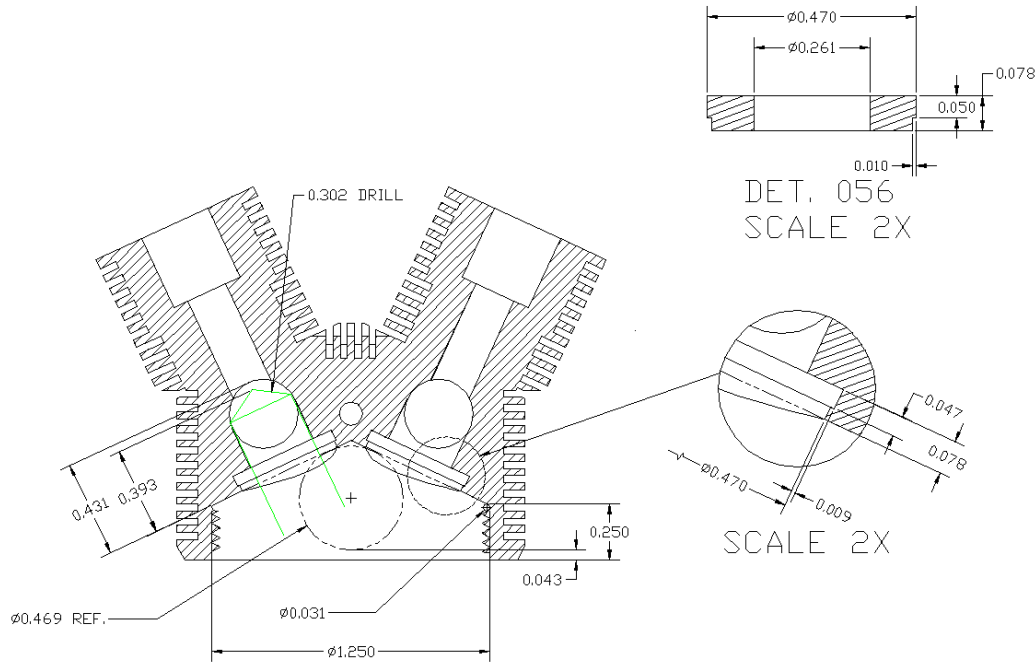

Figure 1
3. Drill 0.302” (Letter “N”) 0.393” deep as in Figure 1.
4. Proceed to bore the valve insert cavity per the detail in Figure 1.